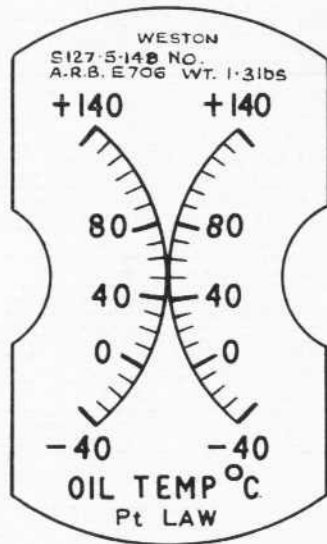

Fig. 1. Indicator, Type S127.5.148
1. The dual temperature indicator, Type S127.5.148 (fig. 1) is calibrated in deg. C from -40 to 140 on each of the two scales. The deflection of each pointer is controlled by the variation of resistance of an externally connected platinum law resistance thermometer element. The two indicator movements are each designed as a ratiometer.